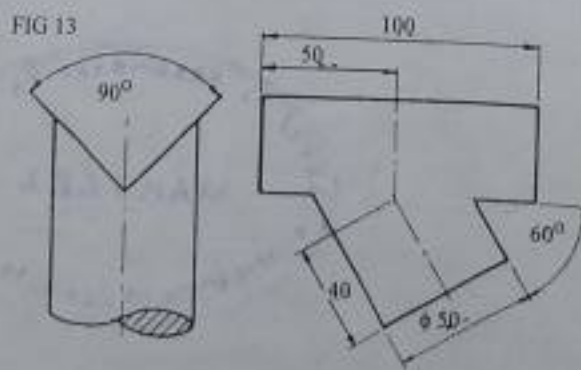

FIG. 2
2. Figure 2 gives two incomplete elevations of the joint between a V - trough of 50 mm side and a cylindrical pipe.